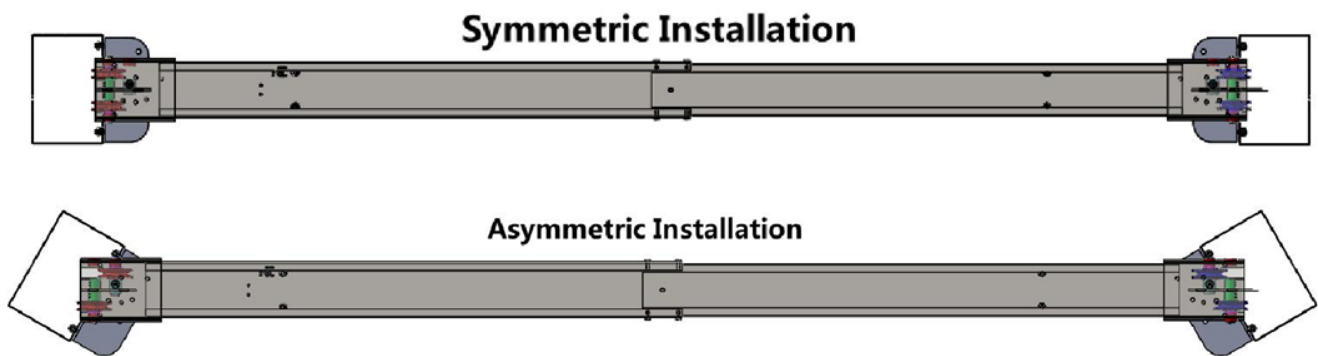
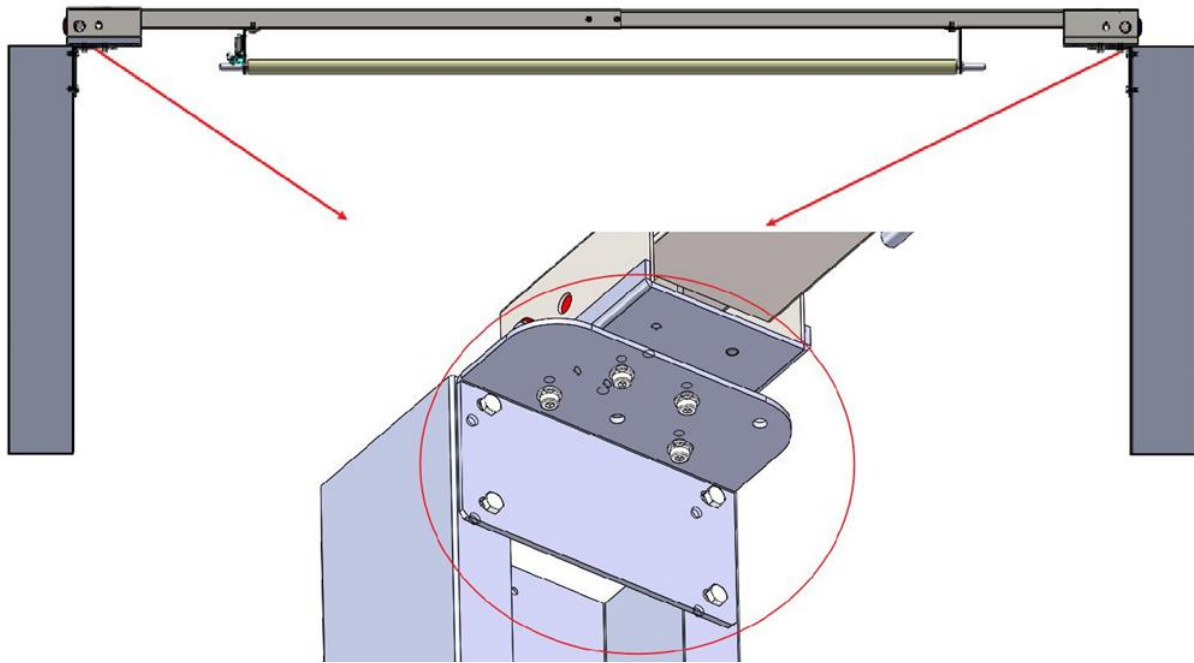
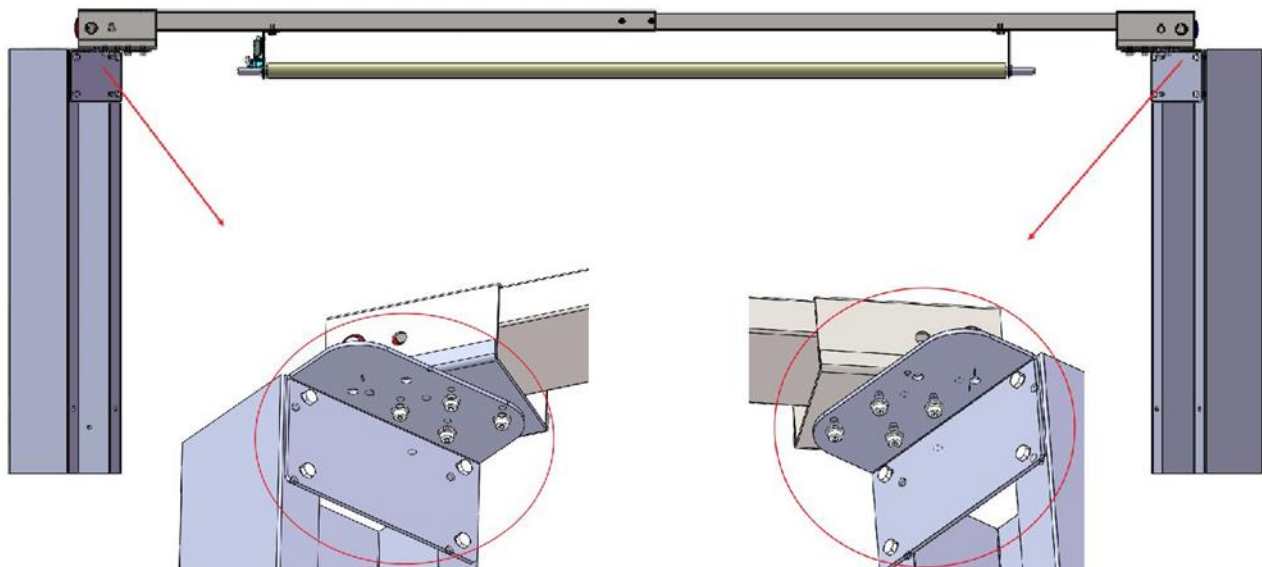

Fig. 10 Cable Pulley Position
Fig. 13 Symmetric Install overhead top beam
Fig. 14 Asymmetric Install overhead top beam
C. Mounting position of cable pulley (Fig.10)
1. When symmetrical installation method is adopted, cable pulley (refer to Fig. 10) should be installed according in a symmetrical manner and fix the 6 screws underneath the overhead beam (Fig. 13)
2. When asymmetrical installation is adopted, cable pulley (refer to Fig. 10) should be installed according in asymmetrical manner and fix the 5 screws underneath the overhead beam (Fig 14).